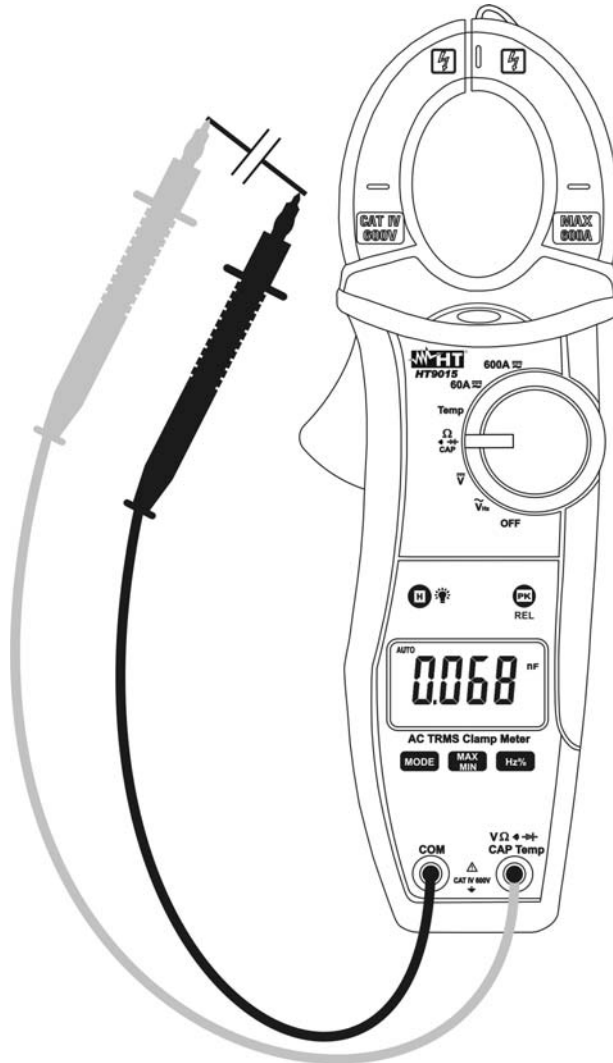

Fig. 7: Taking Capacitance measurement
3. Insert the red test lead plug into $V \Omega \cdot \mu \text{V}$ $\rightarrow$ **CAPHz%Temp** jack and the black test lead plug into **COM** jack (Fig. 7)